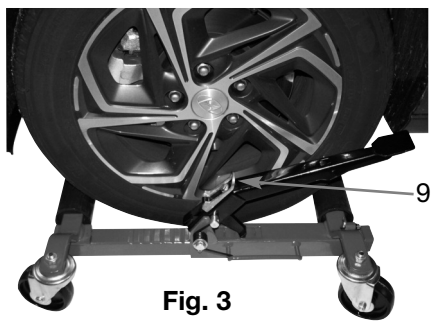

Fig. 3
4. Push the maneuvering aid in toward the tire where the rollers of the base leg assemblies are straddling the tire and the center of the tire is in line with the center of each roller (**Fig. 3**).
9. Rotate the lock (9) (**Fig. 3**) forward towards the foot pedal and then continue to activate the foot pedal until the rollers of the base leg assemblies clear the circumference of the tire. Remove the maneuvering aid.